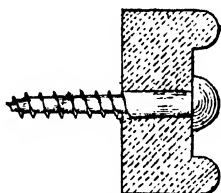

Fig. 605.—Wall Protector.
**Wall Protectors for Chairs.**—To protect walls that are painted, papered, or stained, from being marked or bruised when chair backs are placed suddenly or carelessly against them, the following device may be used:—Procure some indiarubber buffers, as sold by rubber merchants, and some round-headed screws, and fasten the buffer to the part of the chair back that first comes in contact with the wall, as clearly shown by Fig. 605. If the chair back has much curvature, only one buffer is required, but if the back is only slightly curved or flat, two buffers may be used.